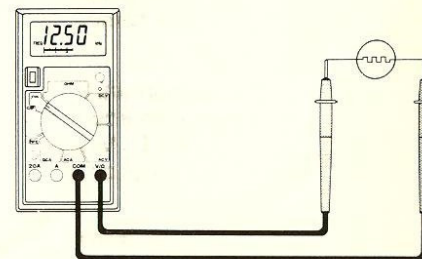

Fig. 5-11 Frequency Measurement
2. Set the Function switch to the f KHz range to be used and connect the test leads across the frequency under measurement. See Figure 5-11.